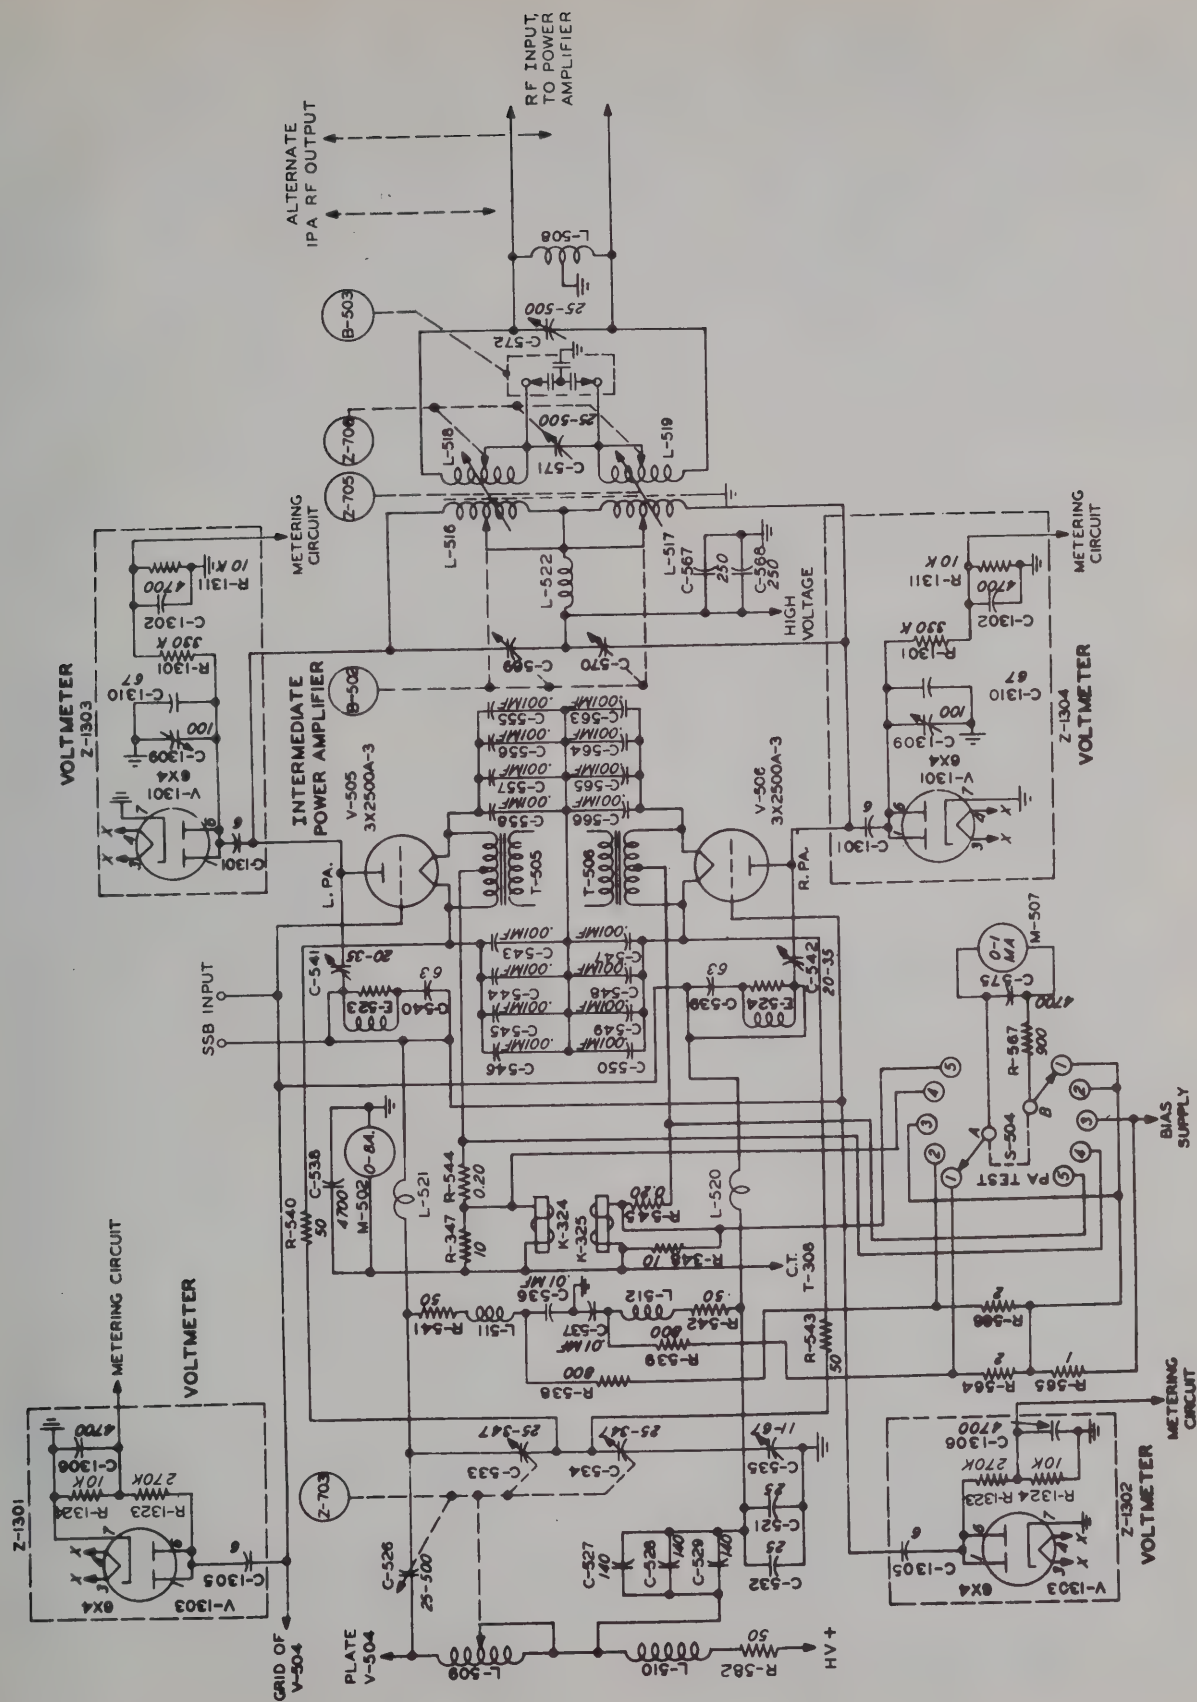

Figure 114. Radio Transmitter T-454/FRT-26, Intermediate Power Amplifier Stage, Schematic Diagram.
(4) *Intermediate power amplifier* (fig. 114).